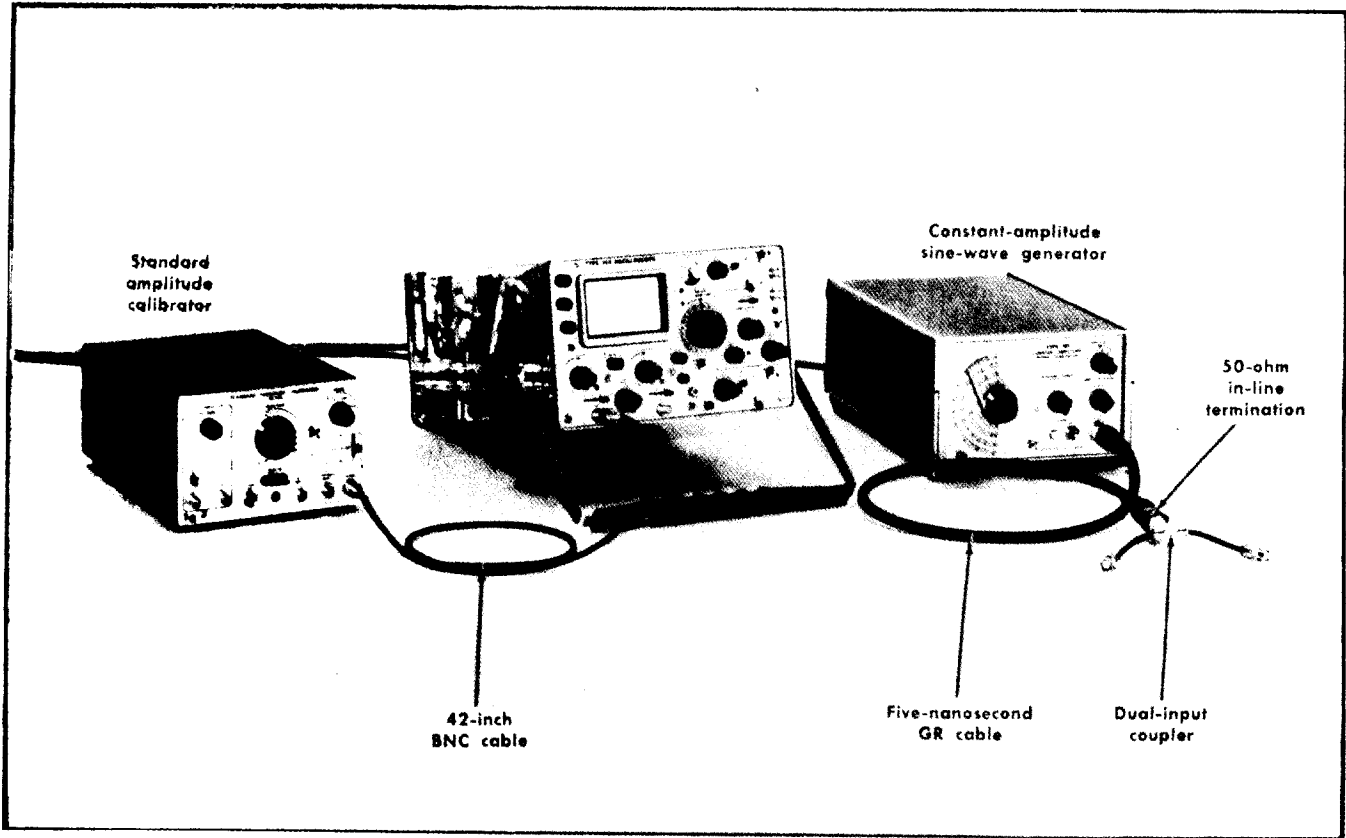

Fig. 6-50. Initial test equipment setup for steps 61 through 66.
61. Adjust External Horizontal Gain ①
a. Test setup is shown in Fig. 6-50.